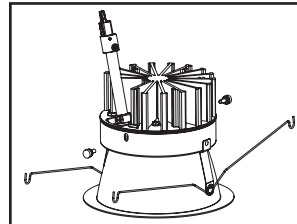

Figure 31.
3. Using provided thumb screws, securely attach reflector to LED module. For the 6" Wide Portfolio LED Reflector (6LW) replace the thumb screws with the screws and lock washers provided in the Screw Parts Bag (Figure 31.).